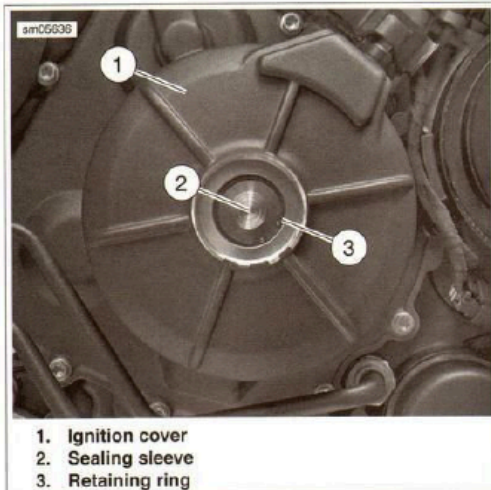

Figure 3-142. Sealing Sleeve Retaining Ring
2. See Figure 3-142. Remove retaining ring (3) securing sealing sleeve (2).
5. See Figure 3-142. Install retaining ring (3).